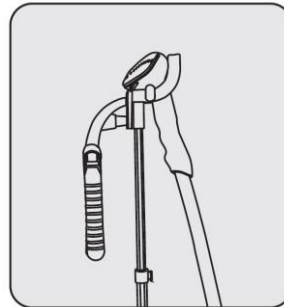

Fig.4
7. Hang the steam nozzle on the steam nozzle hanger. (See Fig.4)